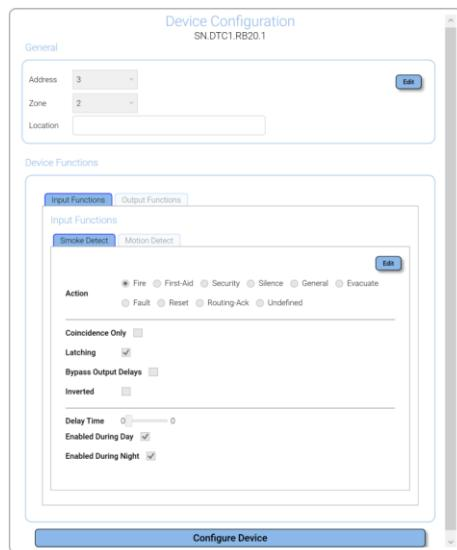

Figure 48: Devices screen configuration panel for a multi sensor smoke
2. Select the top **Edit** touch button (Figure 48) to edit the address and location information, or
3. Select the lower **Edit** touch button (Figure 48) to edit the device input functions.